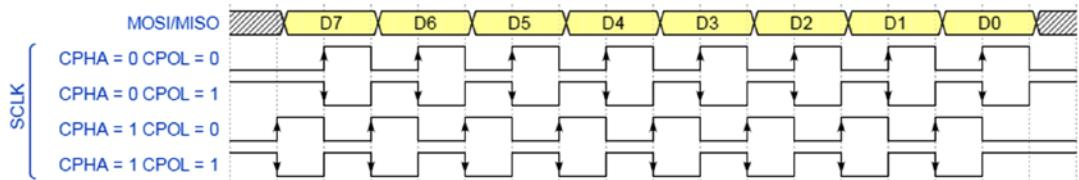

Figure 14-4. SPI clock timing setting
2. User can control the master clock polarity (CPOL) and phase (CPHA) (Figure 14-4 shows the CPOL and CPHA).
The chip select will be active low when chip select polarity (CSPOL) is LOW. The functions are shown in Figure 14-4. Figures 14-7, 14-8, 14-9, and 14-10 are the actual outputs from the SPI master with different combinations of CPHA and CPOL.